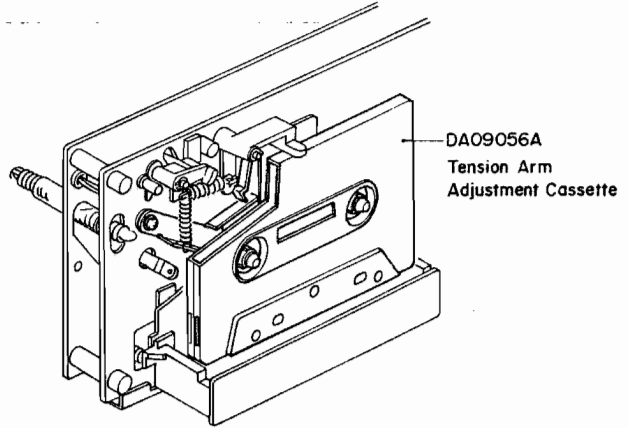
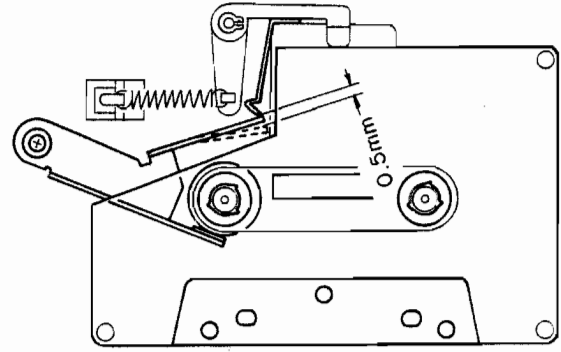

Fig. 4.13
Fig. 4.14
Refer to Figs. 4.13 – 4.16.
- (1) Load the Tension Arm Adjustment Cassette (DA 09056A) referring to Fig. 4.13.
- (2) Set the Cassette Deck in play mode.
- (3) Bend the Back Tension Arm with pliers so that the gap between the Cassette Arm Holding Spring assembled with the Head Base Ass'y and the Back Tension Arm becomes 0.5 mm as shown in Fig. 4.14. Do not bend the pointed end of the Back Tension Arm.